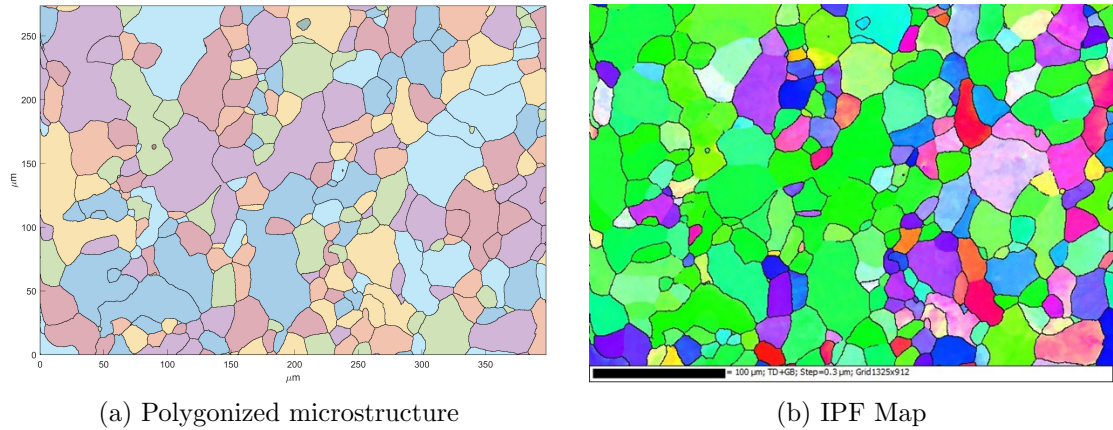

Figure 1.1: Typical example of converted microstructure (a) compared to the corresponding IPF map (b).
EBSDPolygonizer is a MATLAB-based app designed to transform EBSD grain data into polygonal representations. In this conversion, each grain is represented by a distinct polygon. This transformation allows for the direct utilization of real microstructures as geometries in finite element (FE) models and automated assignment of material parameters and boundary conditions to individual grains. Figure 1.1 illustrates a representative example, contrasting the converted microstructure with its corresponding inverse pole figure (IPF) map.